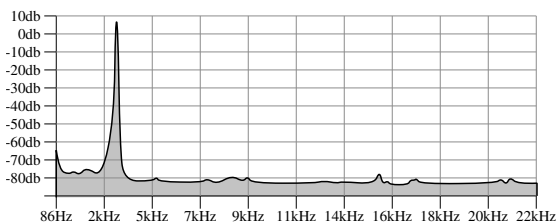

Figure 3: Spectrum of approx 3kHz sine-wave
- Action:** On the Audacity menu, select **Analyze** → **Plot Spectrum** to see the spectrum of the signal. Confirm that the signal has a peak at approximately the frequency shown on the hex display and the overall shape is similar to that shown in Figures 3 or 4, where the location of the main peak and the heights of the harmonics are dependent upon the frequency of the sine wave.